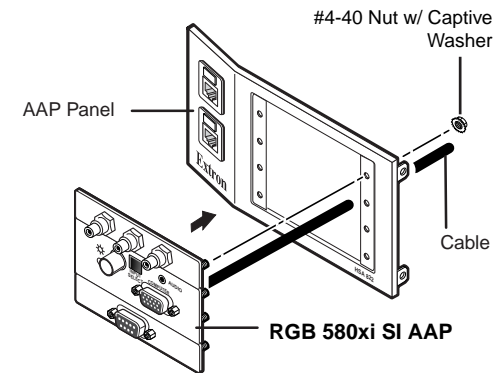

Figure 2-5 — Mounting an AAP device on the AAP panel
3. Insert each of the AAP's screws through the holes in the AAP opening of the HSA AAP panel. Secure each AAP to the panel with the provided captive washers and #4-40 nuts (figure 2-5).